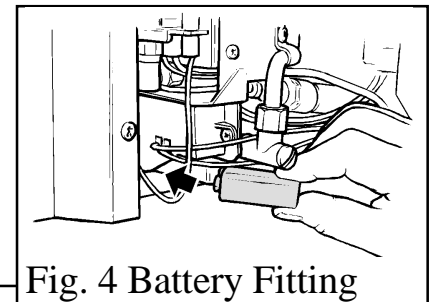

Fig. 4 Battery Fitting
3.2.1 Fit the battery to the ignition block located below the burner tray at the left side. See figure 4. The positive terminal (+) is to the right as you insert.